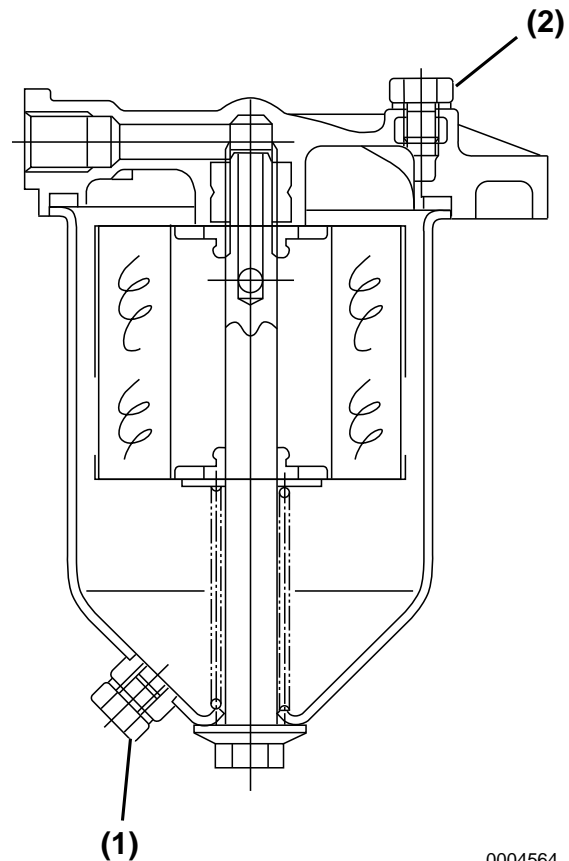

Figure 10
2. Loosen the drain plug (**Figure 10, (1)**) of water separator and drain off any water or dirt collected inside.
3. After draining, tighten the air bleed screw (**Figure 10, (2)**).